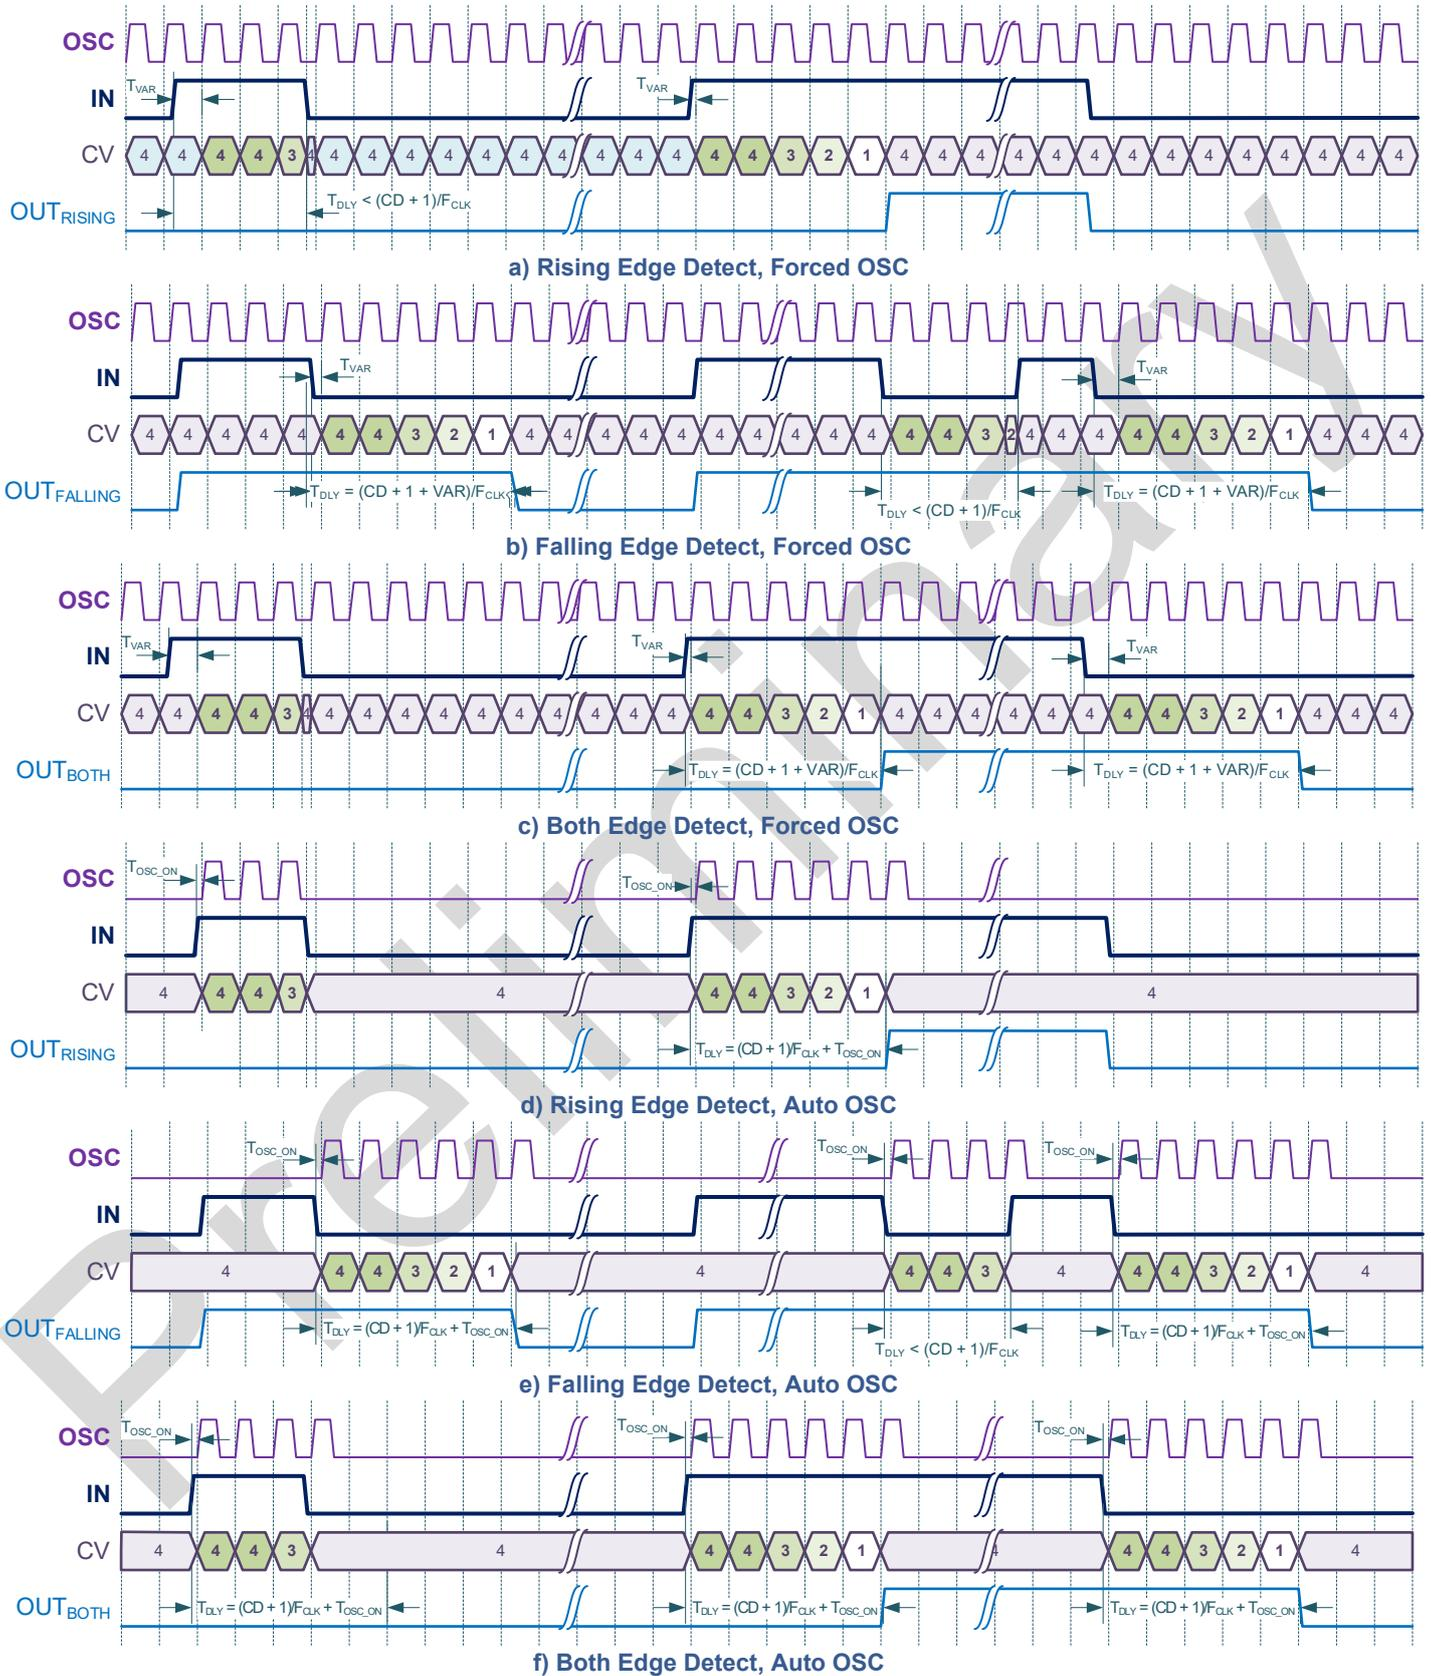

Figure 8.5. Delay Mode (Control Data: 4)
In the Delay mode the TMR delays the input signal by the selected edge event (rising edge, falling edge, both edges) for a time determined by the Control Data, input clock signal and selected prescaler value. If input signal is shorter than the delay value, the signal does not propagate to the output. The timing diagrams of this mode is shown in the Figure 8.5.
- Delay (Figure 8.5)